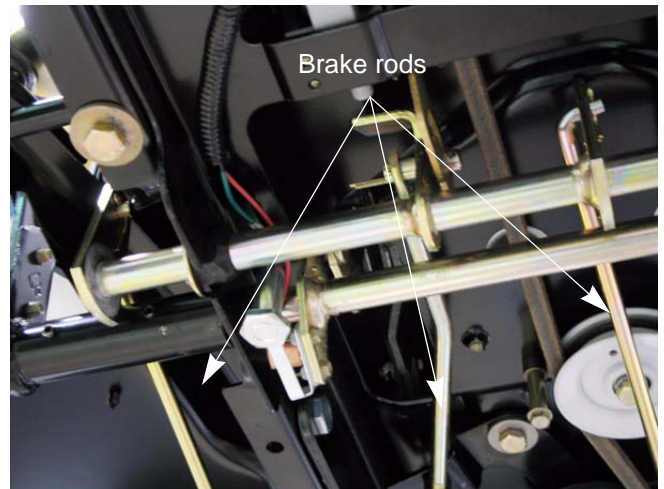

Figure 3.17
- Remove the cotter pins that retain the three brake rods. Slide the brake rods out of the brake cross shaft assembly. See Figure 3.17.